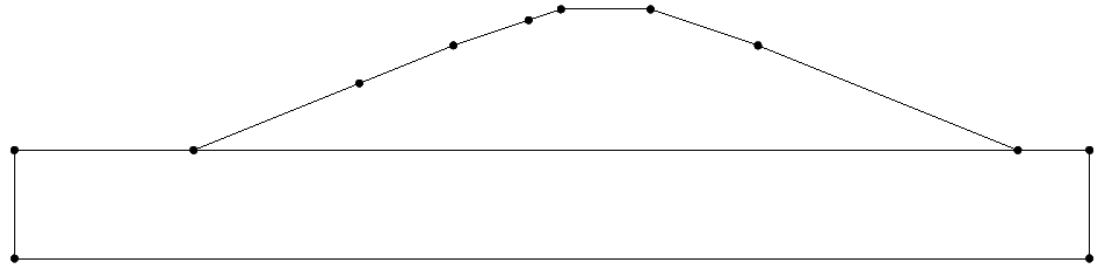

Figure 2. Arcs connecting points.
3. Using Figure 2 below as a guide, click on the existing points to create arcs between the points around the perimeter of the model.